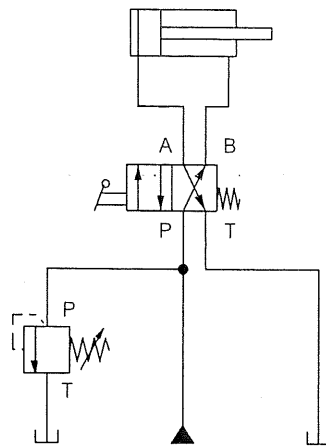

Figure 1
a) Figure 1 shows a simple hydraulic circuit. Convert the existing circuit to an electro hydraulic system with a direct actuation single solenoid valves.